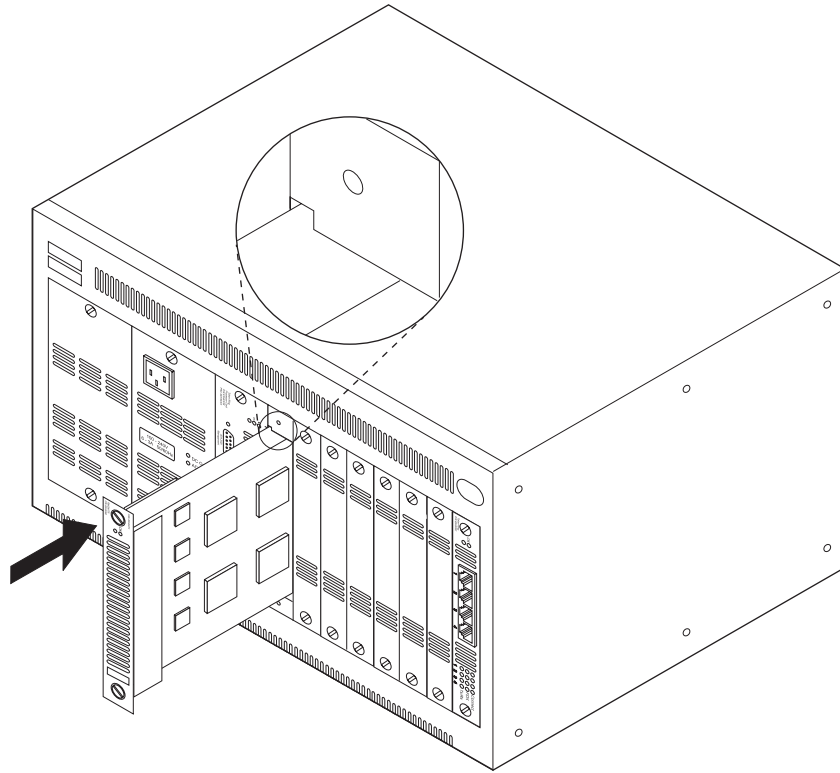
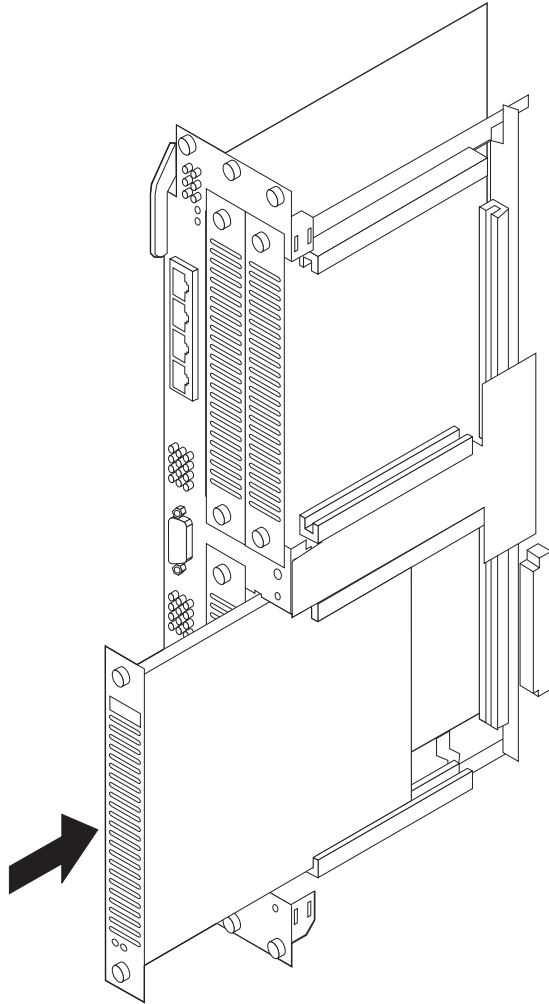

Figure 2-2. Installing the UFC in a Standalone Base Switch
Figure 2-3. Installing the UFC in a LAN Switch Module
- 6** Carefully insert the card in the UFC slot, making sure that the card edges are correctly aligned in the guides, and that the connector on the card is seated in the connector at the back of the slot. See Figure 2-2 on page 2-3 and Figure 2-3 on page 2-4. When the UFC is fully seated, the UFC faceplate rests against the front of the base switch.